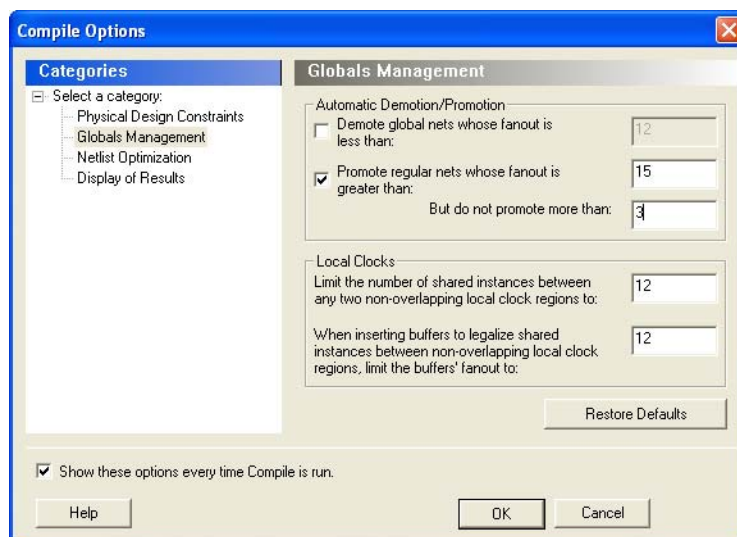

Figure 1-33 • Compile Options - Globals Management
- In the **Compile Options** dialog box, choose **Globals Management** and enter the following (Figure 1-33):